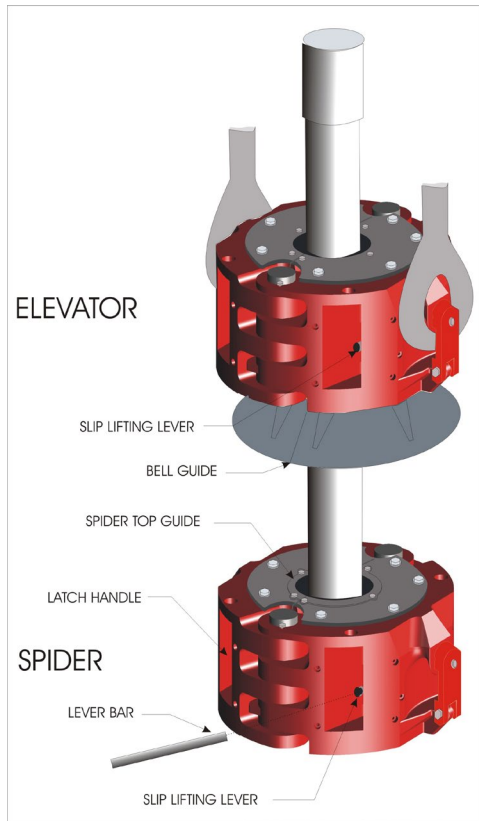

Figure 2-6. Typical Installation
A typical installation is shown in Figure 2-6.
2. Attach links to elevator ears as shown in Figure 2-6 and secure link catches.